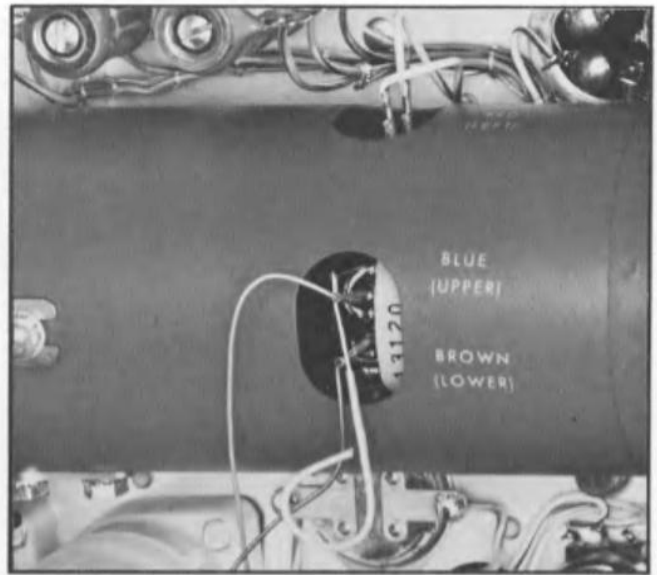

Fig. 6-6. Shorting crt vertical deflection pins, step 12.
- Position the trace to the graticule centerline. Use a non-magnetic tool or wire (with insulation for the hands) and short the crt vertical deflection pins together. See Fig. 6-6. Note the trace position on the crt. This is the crt electrical center.